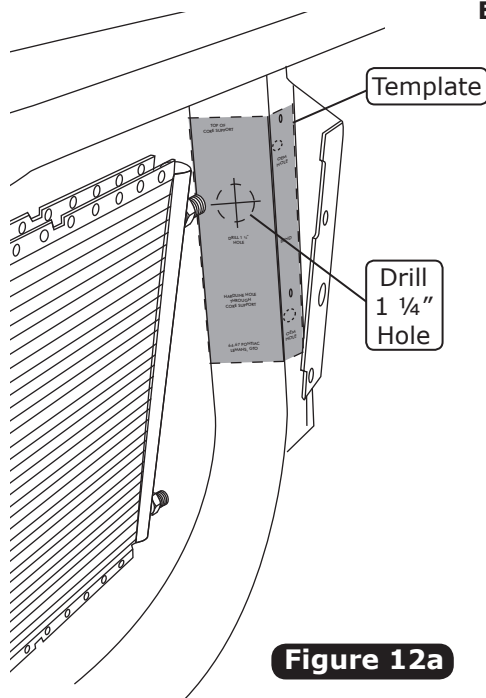

Figure 12a
1. Cut out the template provided on Page 23, and place it on the engine side of the core support as shown in Figure 12a, below.